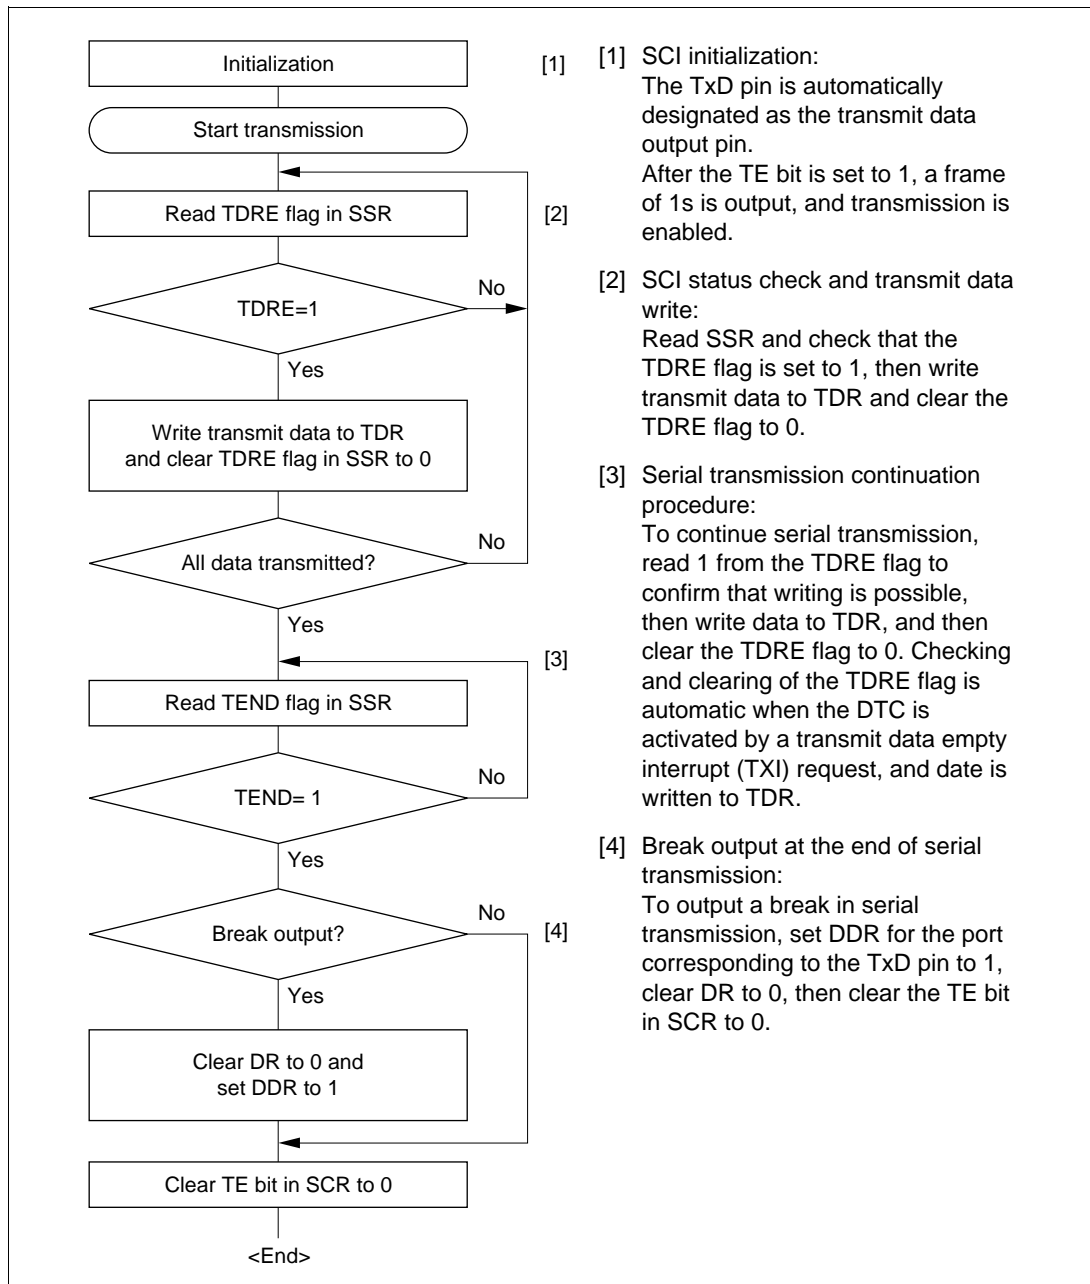

Figure 13-5 Sample Serial Transmission Flowchart
- Figure 13-5 shows a sample flowchart for serial transmission.